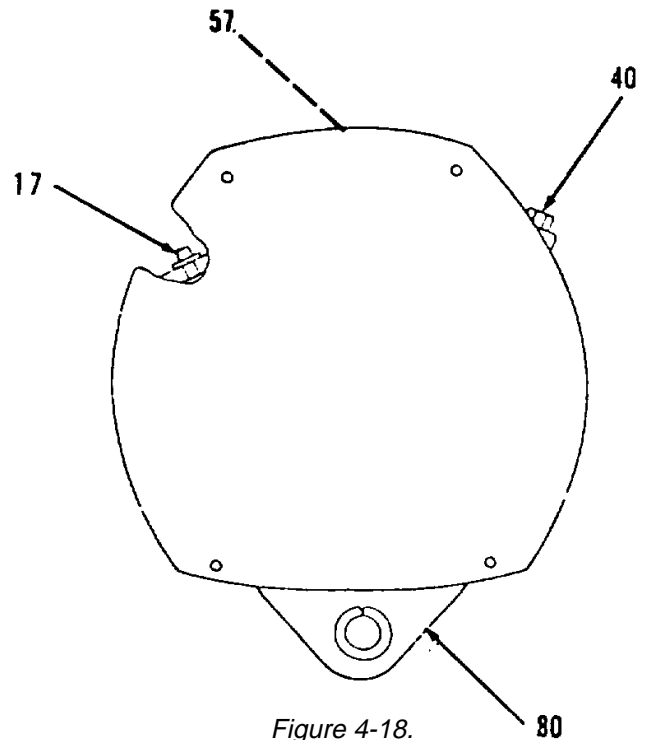

Figure 4-18.
58. Using 24 volt battery, magnetize rotor (57). Connect positive wire on stud (40) and negative wire to housing (80, Figure 4-18). Connect third jumper wire to the positive battery jumper wire. Momentarily touch the other end of the third jumper wire to stud (17). This will magnetize rotor (57).